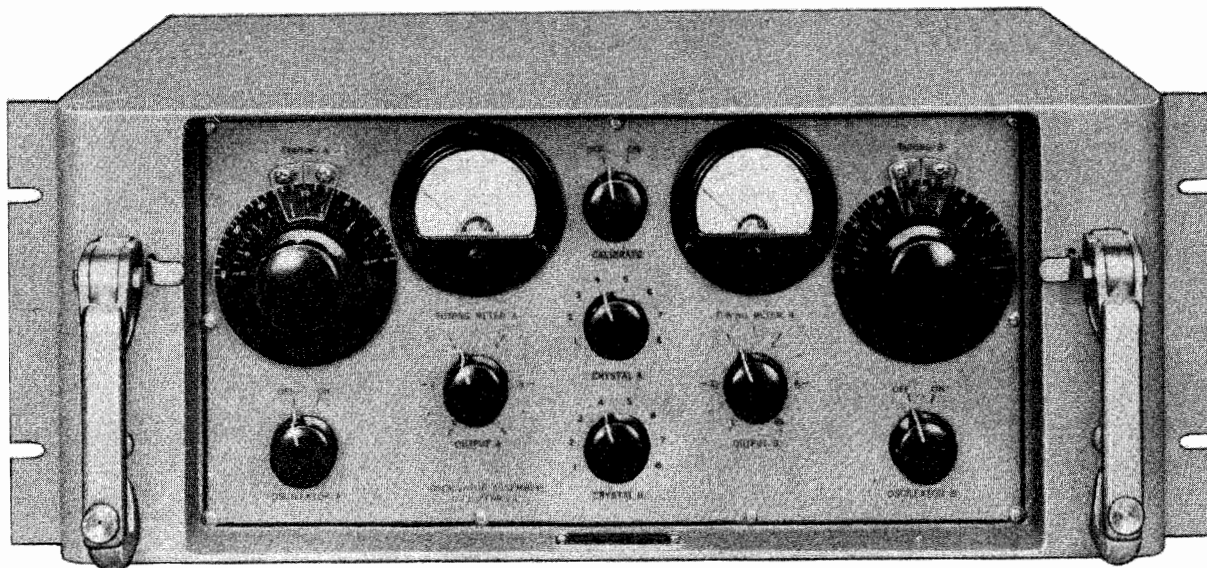

Figure 1-12. Oscillator Assembly O-131/FRR-24
(6) OSCILLATOR ASSEMBLY O-131/FRR-24. (See Figures 1-12 and 1-13).—This unit utilizes 16 crystals in the frequency range of 3.75 to 15 mcs. to provide heterodyne voltages for crystal-controlled operation of one or more Amplifier-Converter units. Two separate oscillators are used to provide these output voltages. Each oscillator has three parallel outputs with equal amplitude at an impedance of 23 ohms. A 200-kilocycle oscillator and harmonic generator are contained in this unit to provide marker frequencies for injection to the Amplifier-Converter unit for calibration checks. Two front-panel mounted crystal switches are used to select the crystals necessary to produce the heterodyne voltage required for reception of the chosen frequency channels. The above crystals are employed with a multiplication factor of 1, 2 or 3 times the crystal frequency to cover the tuning range of the Amplifier-Converter units. Two frequency charts are mounted opposite the oscillator unit to identify the frequency of the crystals associated with each crystal position and the signal frequency as read on the Amplifier-Converter unit.